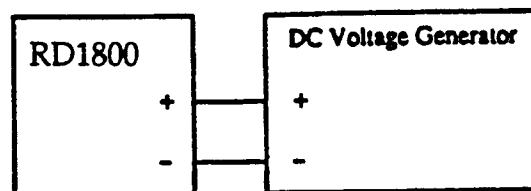

Figure A-4. Recording Accuracy Test Connection
Required equipment is a dc voltage generator (CL8500 or equivalent), with a DCV accuracy of ± 50 ppm, and a glass scale, with an accuracy of at least 185 mm. The connection is shown in Figure A-4.
1. Connect the equipment as shown in Figure A.4.